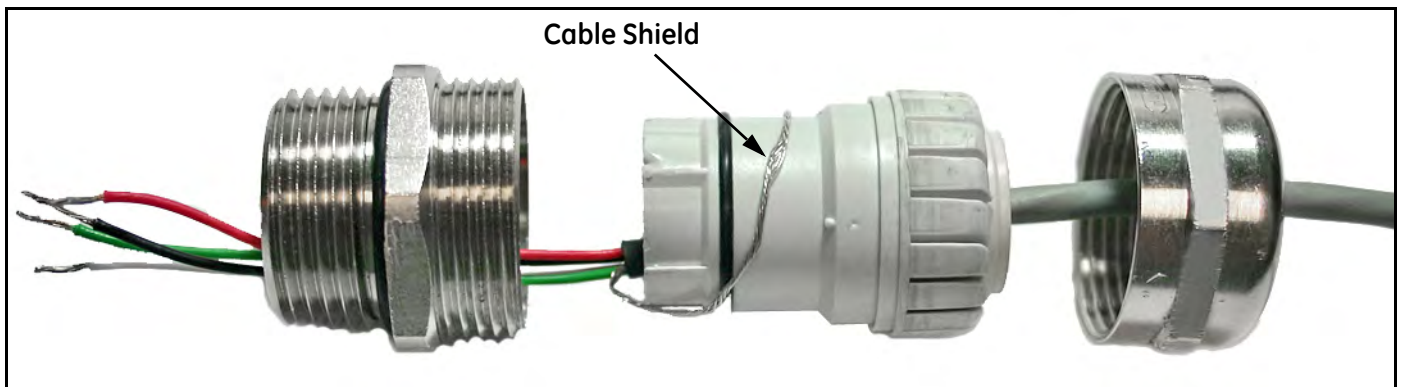

Figure 89: Proper Cable Gland Assembly
2. Route the 4-wire power/analog output cable through the cable gland as shown in *Figure 89* below. After terminating the shield as shown, assemble the three gland pieces together and tighten the gland to secure the cable and the shield. Thread the fully-assembled cable gland into the XMTC port closest to the terminal blocks.
**IMPORTANT:** *The cable shield must be terminated in the cable gland as shown in Figure 89 below.*
8. Route the 3-wire RS232 cable through the cable gland as shown in *Figure 89 on page 95*. After terminating the shield as shown, assemble the three gland pieces together and tighten the gland to secure the cable and the shield. Thread the fully-assembled cable gland into the remaining XMTC port.